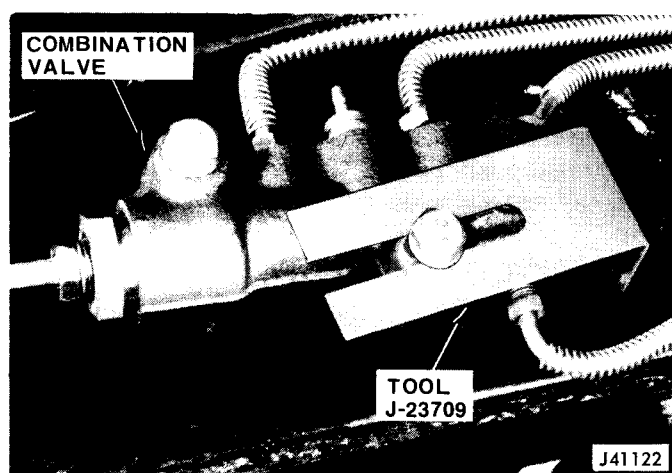

Fig. 9-11 Metering Section Hold-Open Tool Installed
- (1) Clean any accumulated dirt from master cylinder cover.
- (2) Remove master cylinder cover.
- (3) Fill master cylinder if required and reinstall cover.
- (4) Hold combination metering valve open as follows: On Cherokee, Wagoneer, and Truck models, loosen front mounting bolt on combination valve and insert slotted end of Tool J-23709 under mounting bolt. Push in on metering valve pin to open it and retighten the mounting bolt to hold Tool J-23709 in place (fig. 9-11). On CJ models remove the brake warning switch wire, switch terminal, plunger and spring from the combination valve.
- (5) Bleed brake system in following sequence:
(5) Hold combination metering valve open. On Cherokee, Wagoneer, and Truck models, install Tool J-23709 as described in step (4) of Manual Bleeding Procedure (fig. 9-11). On CJ models, remove the brake warning switch wire, switch terminal-plunger-and spring from the combination valve before bleeding the system.
(6) Bleed brake system in following sequence:
**NOTE:** When using pressure equipment, bleeding procedure is the same as outlined in step (5) of Manual Bleeding Procedure except that a helper is not required to depress the brake pedal. The pressure bleeder develops enough system pressure to permit bleeding without the use of the brake pedal.
(7) When system has been purged of all air, turn off pressure bleeder and close release valve.
(8) Disconnect pressure bleeder hose at adapter fitting and remove master cylinder cover adapter.
(9) Refill master cylinder reservoirs to within 1/4 inch of reservoir rim.
(10) Install cover and rubber diaphragm. Make sure cover retainer is in place.